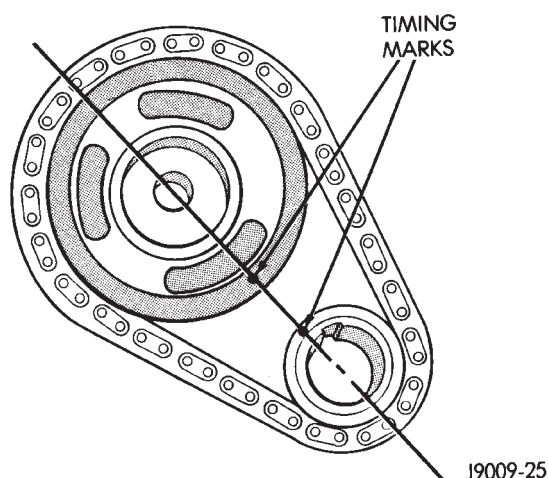
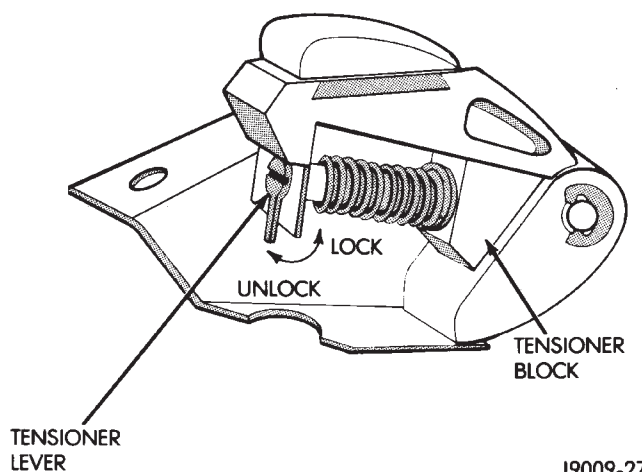

Fig. 45 Crankshaft—Camshaft Alignment
Fig. 47 Loading Timing Chain Tensioner
- (1) Disconnect negative cable from battery.
- (2) Remove the fan and shroud.
- (3) Remove the serpentine drive belt.
- (4) Remove the crankshaft vibration damper.
- (5) Remove the timing case cover.
- (6) Rotate crankshaft until the "0" timing mark is closest to and on the center line with camshaft sprocket timing mark (Fig. 45).
- (1) Turn the tensioner lever to the unlocked (down) position (Fig. 47).
- (2) Pull the tensioner block toward the tensioner lever to compress the spring. Hold the block and turn the tensioner lever to the lock position (Fig. 47).
- (3) Apply Mopar Silicone Rubber Adhesive Sealant to the keyway in the crankshaft and insert the key. With the key in the crankshaft keyway, install the crankshaft, camshaft sprockets and timing chain. Ensure the timing marks on the sprockets are properly aligned (Fig. 45).
- (4) Install the camshaft sprocket retaining bolt and washer. Tighten the bolt to 108 N·m (80 ft. lbs.) torque.
- (5) Turn the chain tensioner lever to the unlocked (down) position (Fig. 47).